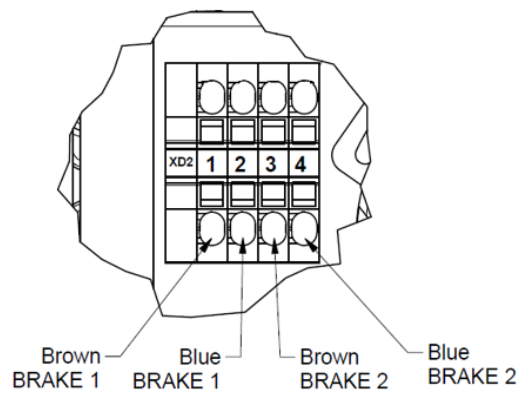
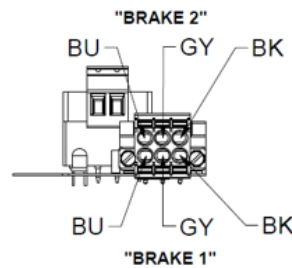

Figure 23. Brake wire terminal configuration
Figure 24. Brake sensor wiring configuration
1. Install the base plate (11) to the body of the hoist with the three M4 screws. Torque the screws to 2.0 Nm.
2. Install the Brake 1 disc, circlip and Brake 1 (1) to the shaft.
3. Install the Brake 2 disc and Brake 2 (3) to the shaft.
4. Install the three 100 mm M5 bolts (4) and washers to the end of Brake 2 (3). Torque the bolts to 5.0 Nm.
5. Install the four brake supply wires (8) to the original positions in the brake wire terminal (9). Refer to Figure 23 for details.
6. Install the encoder bracket (2) to the end of Brake 2 (3) with the two M6 screws (7) and washers. Torque the screws to 3.0 - 3.7 Nm.
7. Install the encoder (6) to the shaft and encoder bracket (2) with the two M3 lock nuts (5). Torque the nuts to 0.5 - 1.0 Nm.
8. Attach the encoder shaft collar to the underside of the encoder (6) with the removed screw (12, Detail 'A'). Torque the screw to 1.1 Nm.
9. Reconnect the brake sensor wires to the brake sensor Phoenix connector - refer to Figure 24 for wiring details.
10. Install the brake sensor Phoenix connector to the brake termination assembly (10).